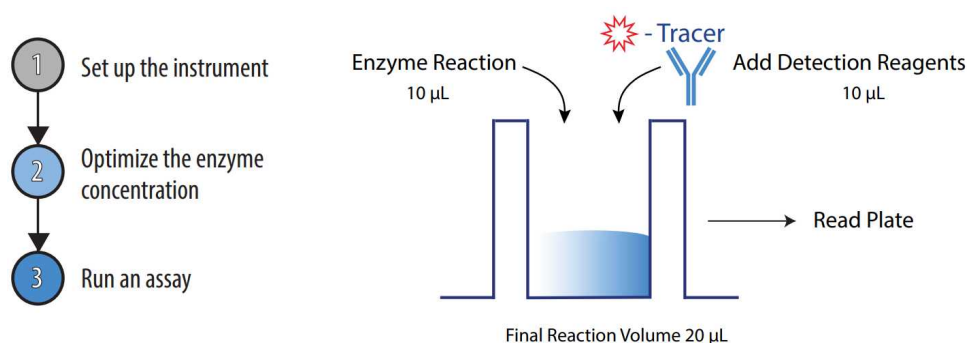

Figure 2. An outline of the procedure. The procedure consists of 3 main steps with a mix-and-read assay format.
- 4 The Transcreeper CD73 FP Assay protocol consists of 3 steps (**Figure 2**). The protocol was developed for a 384-well format, using a 10 μL enzyme reaction and 20 μL complete assay volume when the plates are read. The use of different densities or reaction volumes will require changes in reagent quantities (see **Section 7.2** for example reaction volumes). Once the instrument parameters and enzyme optimization are complete, the assay itself consists of a single step, simply add detection reagents to your enzyme reaction and read the plate.